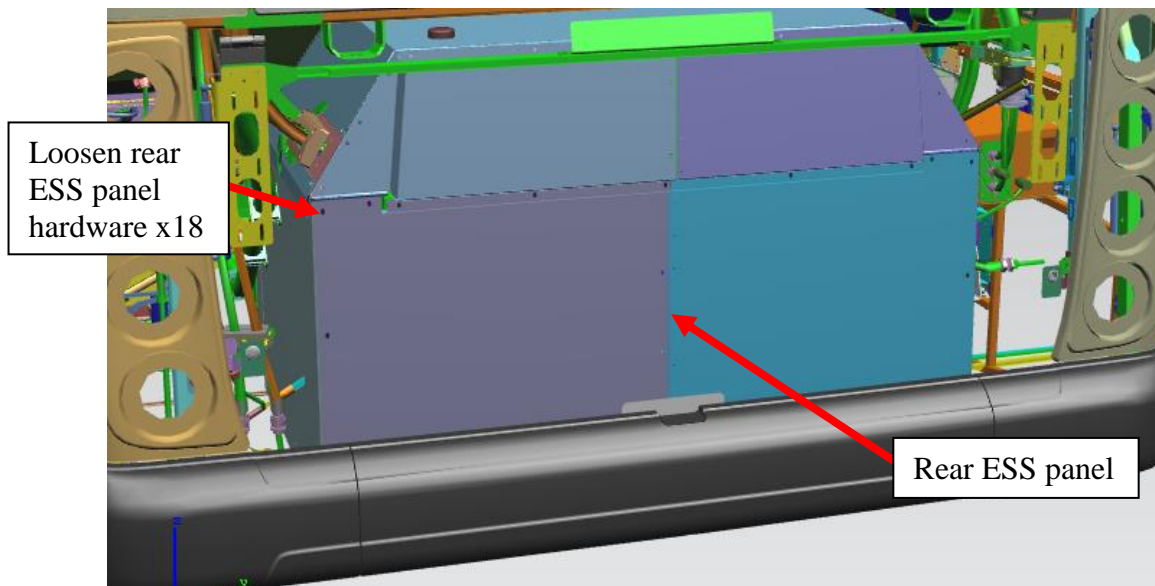

Figure 6: Rear ESS panels
2.2 Loosen all rear ESS panel hardware x18, remove panel and set aside to be re-installed later. See figure 6.